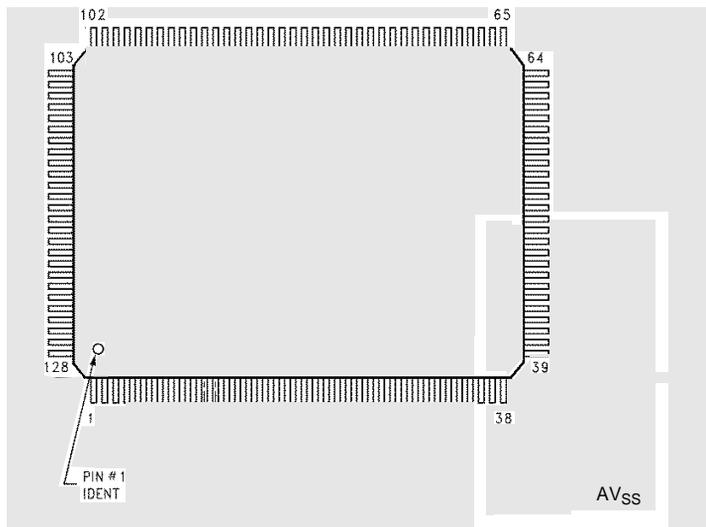

Figure 5. AV_{SS} Plane Layout Example
- A separate, low-impedance ground plane for analog ground (see Figure 5), which provides a ground point for the voltage dividers and analog components, enhances performance but is not mandatory.